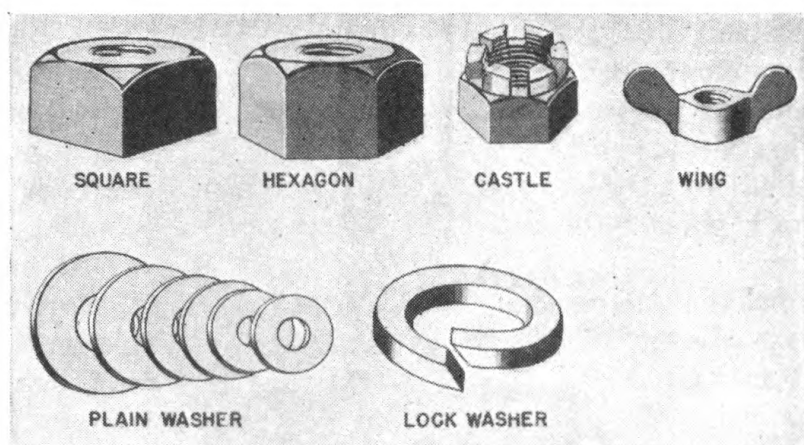

FIGURE 56.—Types of nuts and washers.
(5) Nuts (fig. 56) must always be used with some kind of bolt or stud, so that the two pieces, nut and bolt or nut and stud, exert holding force by the strength of their threads. They are suited to assemblies that may have to be removed or taken apart. Wing nuts are especially useful where there is frequent occasion for hand adjustment. Castle nuts can be set immovable by a cotter pin placed through the slots provided in the nut and a hole in the bolt.
(6) Washers, also shown in figure 56, are often put under nuts or bolt heads to protect the pieces being fastened or to make tightening up easier. Lock washers are made of spring steel and exert a light bite on a nut to keep it from turning and becoming loose.
16. Threads.—Threads are helical ridges cut into screws, nuts, bolts, or the walls of a hole, so that the action of turning the screw, nut, or bolt gives it endwise as well as rotary motion. Although there are many types of threads, only two, National Coarse (NC) and National Fine (NF), are commonly used in motor vehicle work. NC threads range from 64 to 6 threads per inch, NF from 80 to 12 per inch. Any type of thread is either an outside (or male) thread, as